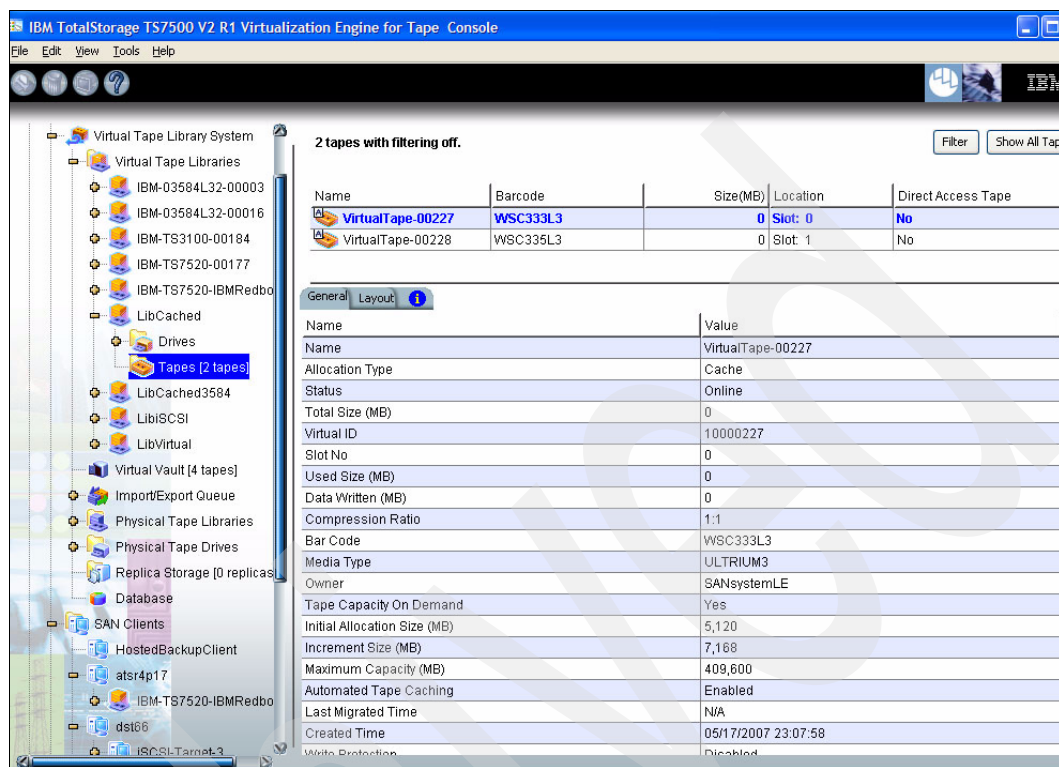

Figure 6-105 TS7530 Virtualization Engine for Tape Console Status window
19. Expand **LibCached** on the TS7530 VE for Tape Console status window (Figure 6-105) to review the current status.